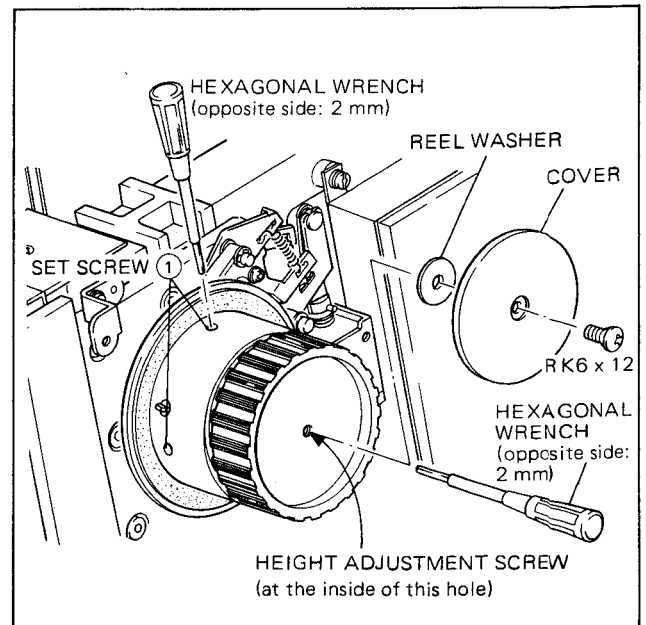

Fig. 3-20. S Reel Table Height Adjustment
- b. Loosen the two set screws ① securing the reel table, and turn the height adjustment screw shown in Fig. 3-20.
- c. While pushing the reel table lightly against the motor, tighten the two set screws ①. Again confirm the height of the reel table according to step 27, and then install the reel washer and the cover.